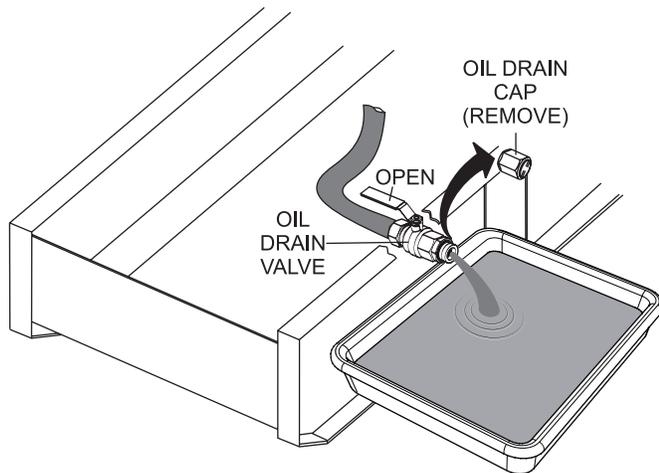

Figure 66. Draining The Engine Oil
4. Remove the **oil drain cap** (Figure 66).
5. Place the **oil drain valve** in the open position (Figure 66) and allow the oil to drain into a suitable container.